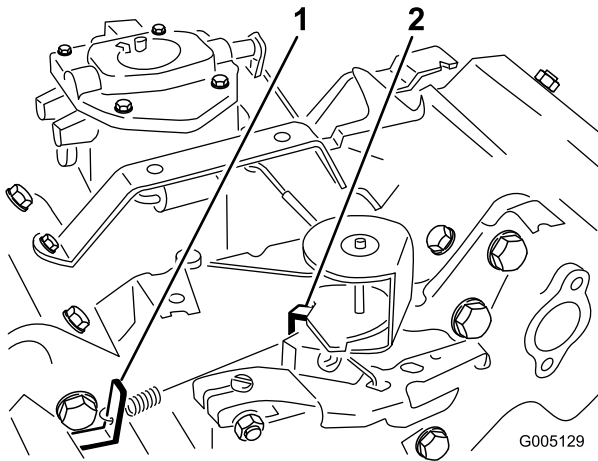

Figure 36
3. Bend the governed idle spring anchor tang (Figure 36) to attain an idle speed of 1625 ± 100 RPM. Check the speed with a tachometer.
5. Move the throttle control to the Fast position. Bend the high speed spring anchor tang (Figure 36) to attain a high idle speed of 2850 ± 50 RPM.